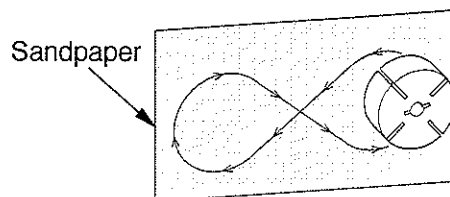

Figure 33 - Sanding Rotor
14. Place fine grade sandpaper (600 grit) on flat surface. Sand rotor lightly in "figure 8" motion four times (see Figure 33).